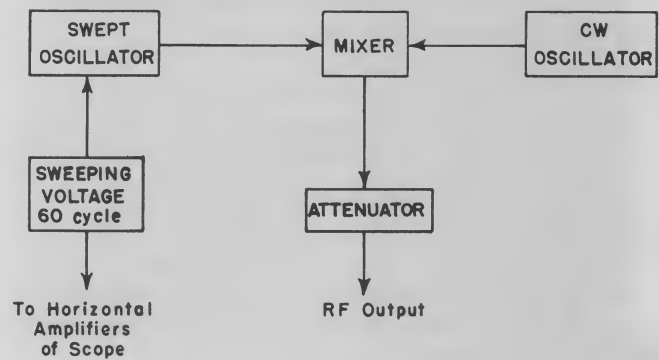

Fig. 2-6. Block diagram of sweep generator. Courtesy GE.
3. **How It Works.** Figure 2-6 is a simplified block diagram of a sweep generator employing two oscillators and a mixer tube.